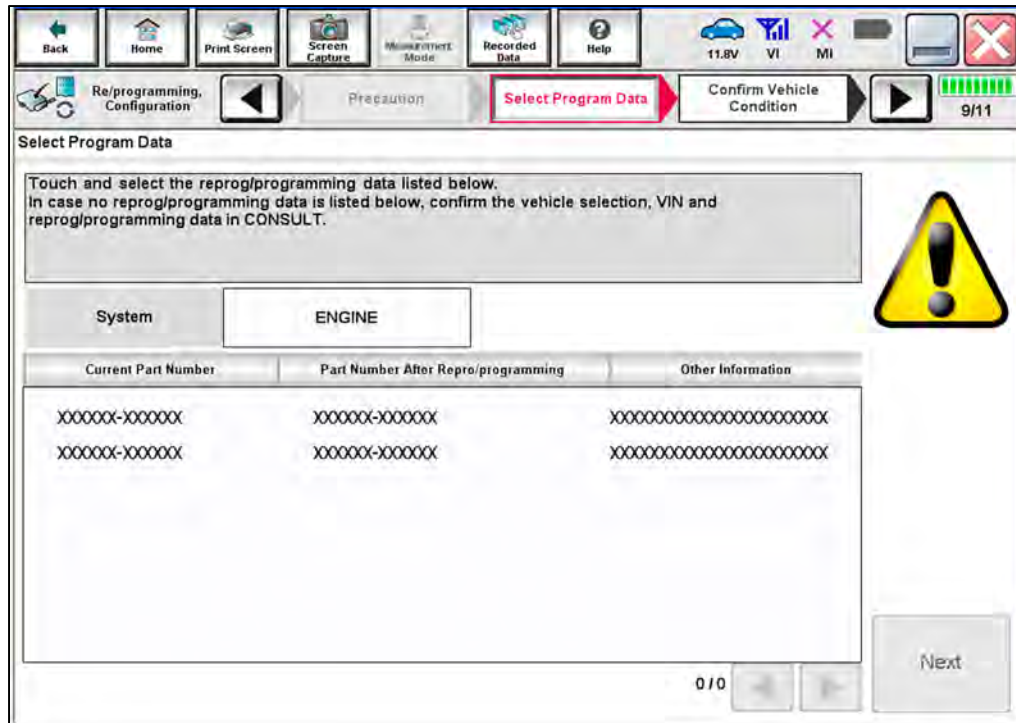

Figure 24
- If more than one new P/N is available, the screen in Figure 24 displays.